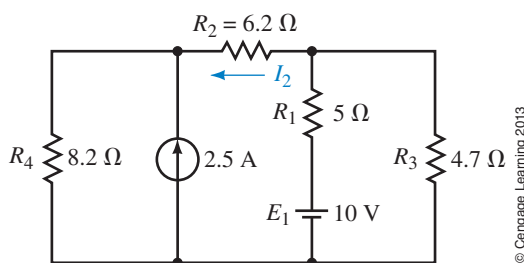

FIGURE 8–81
22. Refer to the circuit shown in Figure 8–82: